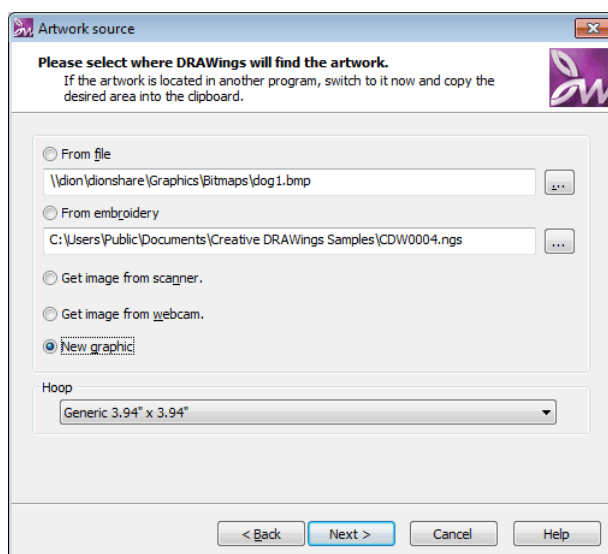

Figure 2.43: Starting dialog - 2nd page
4. The **New design** dialog will appear (Figure 2.43)